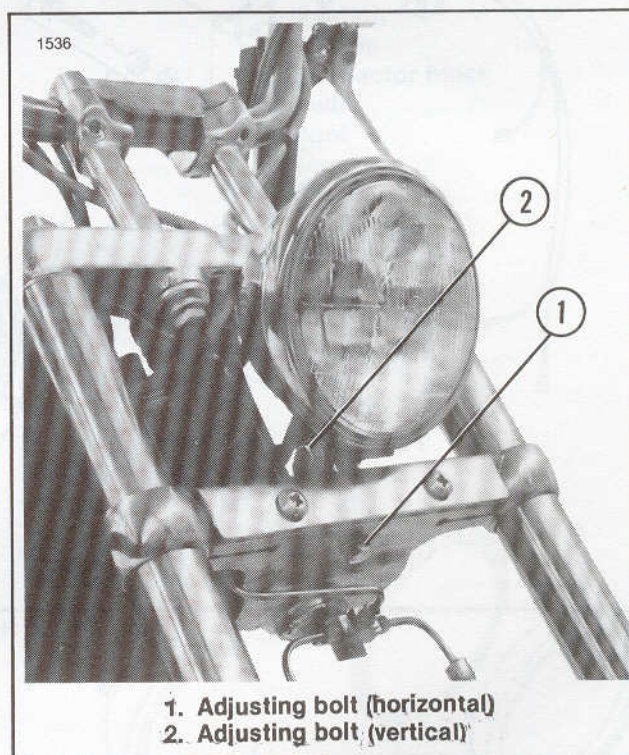

Figure 8-22. Headlamp Adjustment
- See figure 8-22. Headlamp adjustment mechanism is similar for FLSTC/F and FXSTC models.